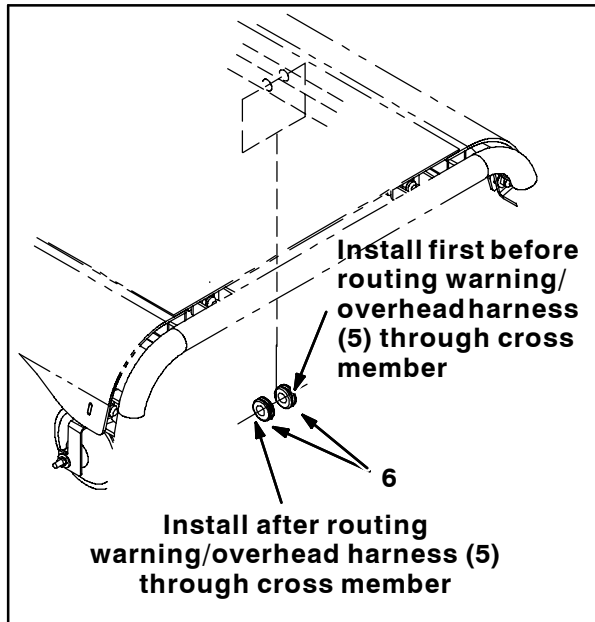

FIG. 6
5. Insert a grommet (6) into the rear hole in the rear cross member of the overhead guard and route the warning/overhead harness (5) through the grommet and the front hole in the rear cross member. (Fig. 6)
6. Slide the remaining grommet (6) onto the warning/overhead harness (5) and insert the grommet into the front hole in the rear cross member of the overhead guard. (Fig. 6)